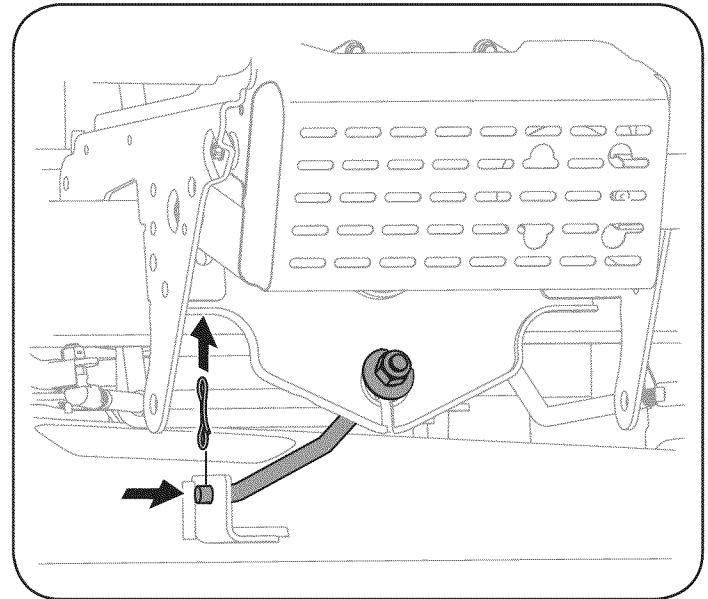

Figure 20
8. Remove the bow-tie cotter pin securing the deck stabilizer rod to the deck. Slide the deck lift rod from the mounting bracket on the deck as shown in Figure 20.